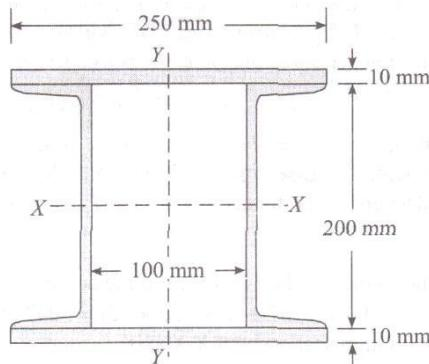

Fig.4.10
**EXAMPLE 4.16.** A column is made up of two channels. ISJC 200 and two 250mm x 10 mm flange plates as show in Fig. 4.10.